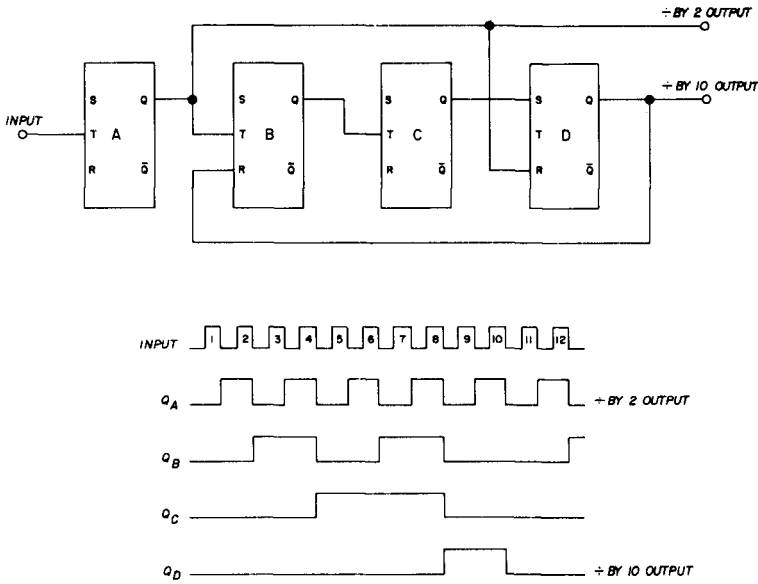

fig. 10. Logic and timing diagram of a decade counter with an auxiliary divide-by-two output.
the decade counter in **fig. 10**.
The flip-flops shown in **fig. 10** are similar to the flip-flops previously discussed (**fig. 4** and **7**) but have an additional input. The toggle (T) input provides symmetrical triggering in that a negative pulse causes the Q and \bar{Q} outputs to change state. If Q was high and \bar{Q} was low before the T pulse, then after the T pulse Q will be low and \bar{Q} will be high. The second T pulse again changes the state of the outputs so that Q will be high and \bar{Q} will be low. Applying a string of pulses to the toggle input will yield a pulse train from the Q output with a frequency that is one-half the frequency of the input. A similar out-
The flip-flops in **fig. 10** may be asymmetrically triggered as before by applying pulses to the set (S) or reset (R) inputs. A negative-going pulse at S will cause Q to be high, while a negative-going pulse at R will cause \overline{Q} to be high. When Q is high, \overline{Q} is low and vice versa. The output conditions cannot be predicted if both S and R are pulsed simultaneously.
In **fig. 10**, the Q output of A (Q_A) is connected to the T input of B (T_B); the Q output of B (Q_B) is connected to the T input of C (T_C). In A, the input pulse is divided by 2; in B, the output of A is divided by 2; and in C, the output of B is divided by 2. This means that the Q output of C (Q_C) is high after four input pulses and goes back to its original state after eight input pulses. Q_C is applied to the set (S) input of flip-flop D.
Fig. 10 also shows a simple connection to Q_A that provides a divide-by-2 output from the same counter. Note the waveform for Q_A . It contains one output pulse for every two input pulses. The same output